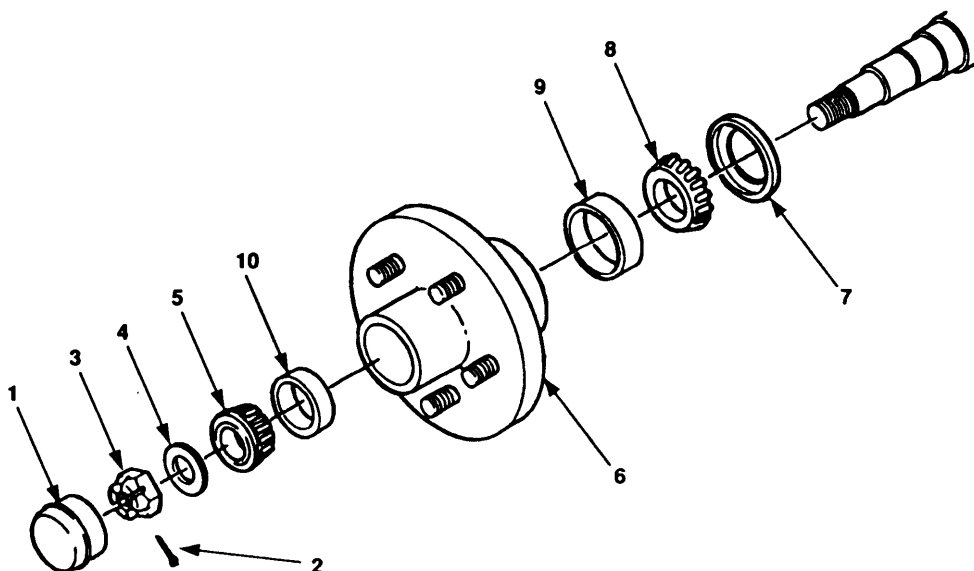

Figure 4-67. Wheel Bearing Maintenance.
- a. Remove dust cap (1, figure 4-67).
- b. Remove cotter pin (2), castle nut (3), and washer (4) .
- c. Remove outer bearing cone (5).
- d. Remove hub (6); then remove seal (7), inner bearing cone (8), inner CUP (9), and outer cup (10).